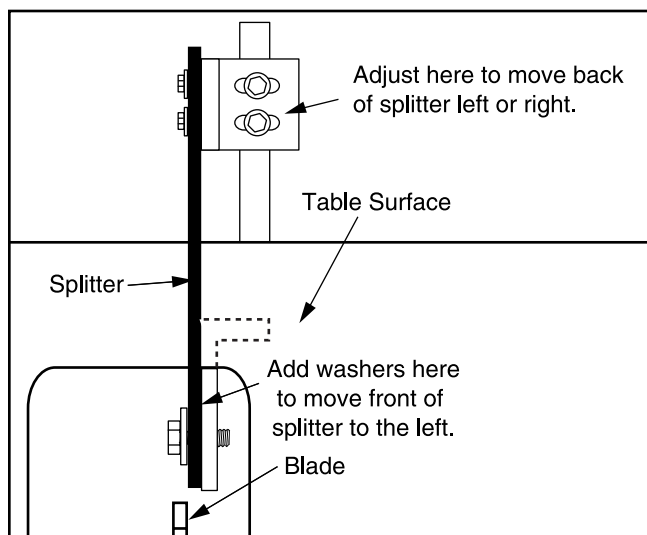

Figure 29. Improper splitter/blade alignment.
7. If the blade guard/splitter is to the right of the blade as shown in **Figure 29**, simply add washers between the splitter and front mounting bracket, and adjust the rear splitter support as shown in **Figure 29**.